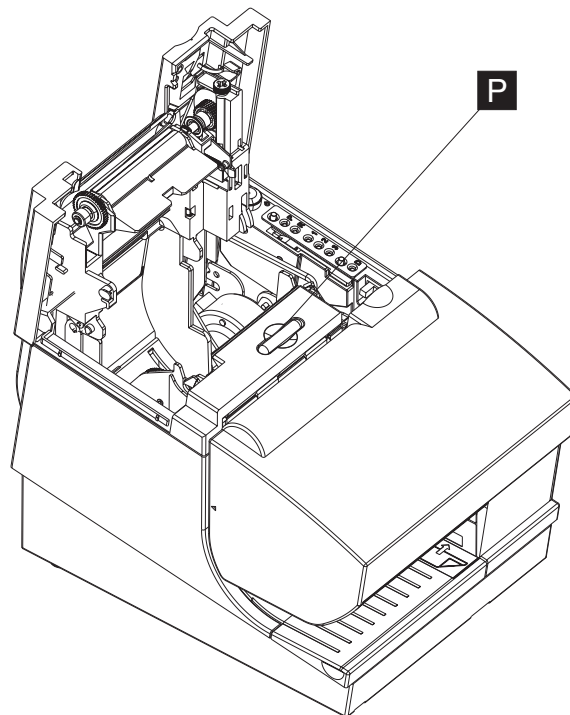

Figure 13. Opening the paper door
1. Press and release the blue release button (**P** in Figure 13) to release the paper door.